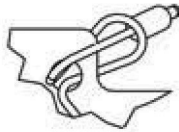
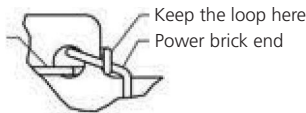

Figure 4-3. Insert the plug end of the wire through the loop.
Figure 4-4. Make sure the loop is on the side of the divider, not on top of it.
Step 3. Insert the loop created in Step 2 through the rear small hole at the top of the divider (Figure 4-2). Then, place the plug end of the wire through the loop (Figure 4-3). Make sure that the loop is on the side of the divider (not on top of it—see Figure 4-4). This will ensure that the divider will slide back into the cart. Then, tighten the loop down to the divider, tightening the knot.